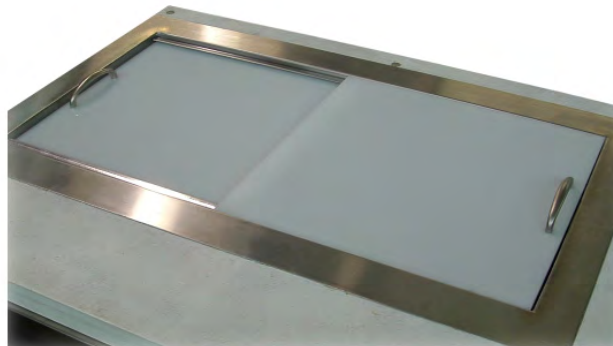

Figure 5: Sliding Covers
**Power Supply** The chiller is supplied with a 1.8m flexible power cord and plug, stored inside the refrigeration unit compartment. Before final positioning of the chiller, retrieve the power cord from inside the unit compartment and feed the cord through the rear of the cabinet and connect to the power supply (see Figure 5 below). For convenience, any surplus cord length may be left inside the unit compartment.
For correct operation of the chiller, the sliding covers must stay on the cabinet and should cover the food preparation pans when not in use. Fit the sliding covers as per Figure 5 below.